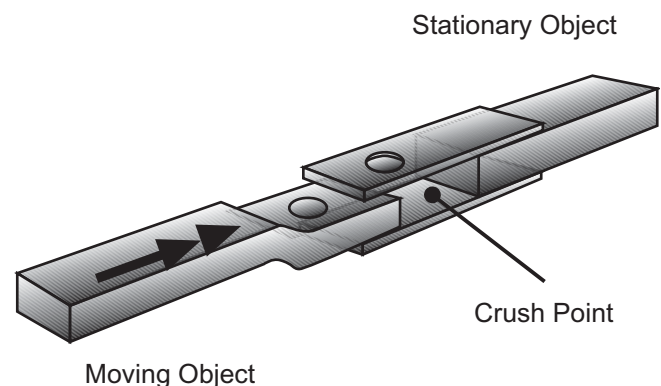

Figure 2. Hitches present typical crush points.
- **Crush points** are hazards involving two components moving toward each other (Figure 2). Examples of crush-point hazards are the raising and lowering equipment with a three-point hitch, components that